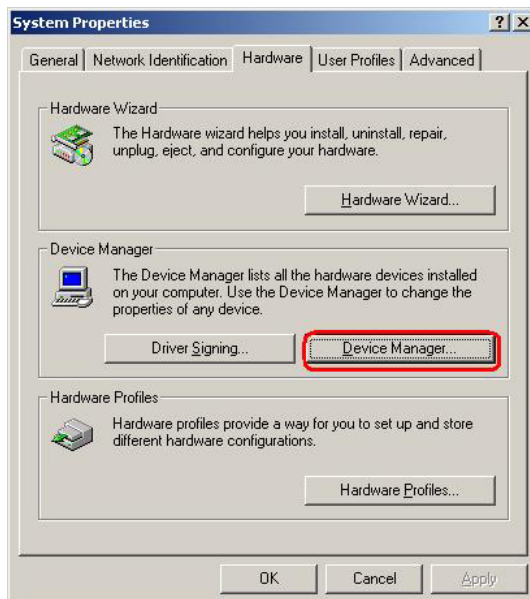

Figure 6-33: Double Click the Device Manager Tab
Step 3: Double click the **Device Manager** tab (Figure 6-33).